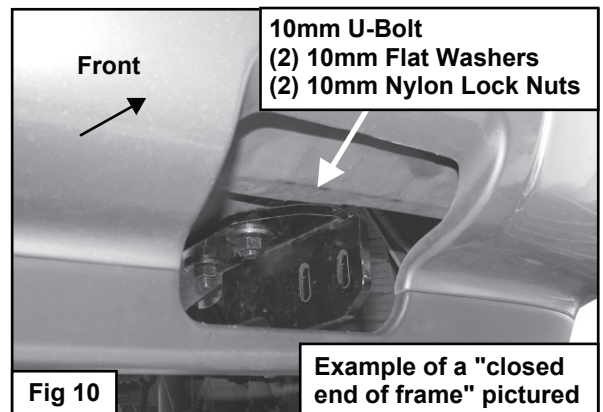

Fig 10
b. Attach the driver side Frame Bracket to the U-Bolt with (2) 10mm Flat Washers and (2) 10mm Nylon Lock Nuts (Fig 10).